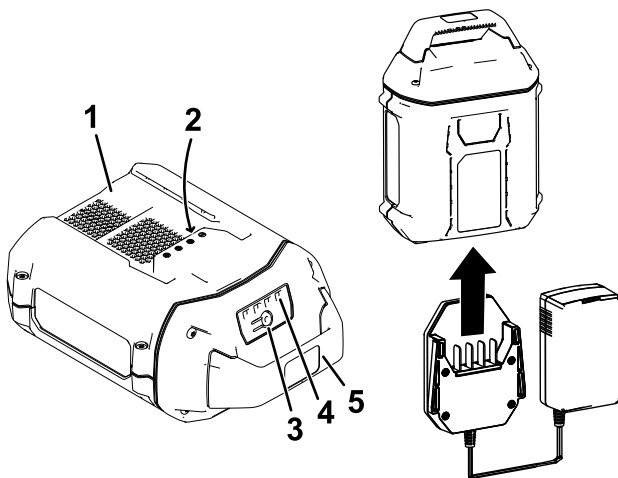

Figure 18
1. Line up the cavity in the battery pack (Figure 18) with the tongue on the charger.
2. Slide the charger into the battery pack until it is fully seated (Figure 18).